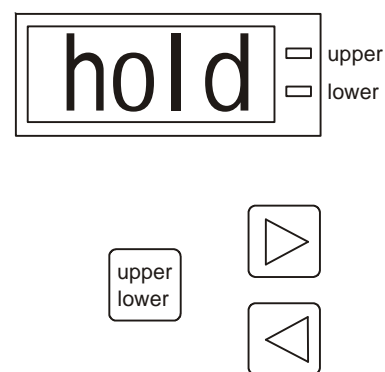

Fig. 26,
**Fig. 26:** The service door is locked electrically. The lock is connected to the UPS in combination with the Plate Shuttle™ System (PSS). Depending on the operating mode of the device, there are two ways to unlock the service door.